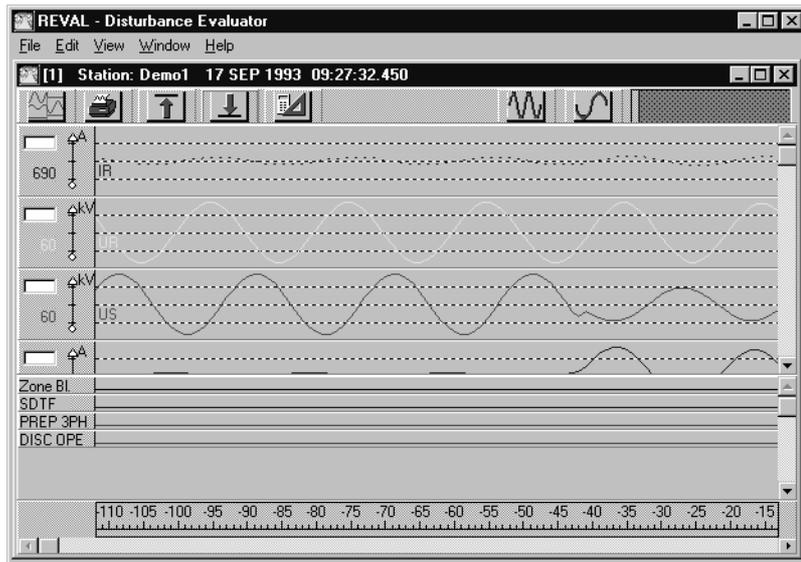

Fig. 6 The REVAL disturbance window.
8 This opens the disturbance window of the chosen file, see Fig. 6.
- 4 Press Zoom Out to restore the screen as it looks like in Fig. 6.